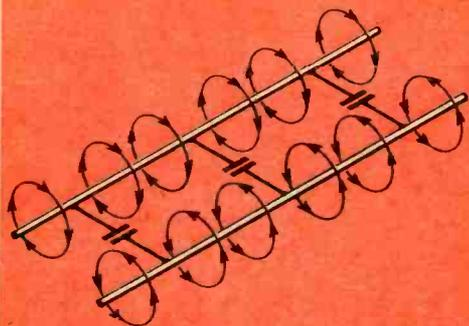
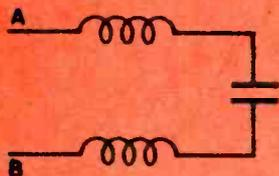

Fig. 1—Parallel wires act as capacitor. Wires have inductance, too, so current creates magnetic lines of force (arrows).
Fig. 2—inductance and capacitance combined in a very small section of two-wire line.
Characteristic Impedance. To find out what the term means, let's take an extremely short piece of twinlead like that attached to your TV set and examine its electrical properties. First, think of the two little pieces of stranded wire as the two plates of a capacitor, between which there is a measurable capacitance. In Fig. 1 this capacitance is represented by the capacitor symbols. Each wire has inductance, too, and this is represented by the circles of arrows. When radio-frequency (RF) power is fed into this minute section of line (Fig. 2) each wire appears as a series impedance to the RF. Knowing the voltage and current of the RF, we can compute the impedance the signal sees when looking into A and B.
Fig. 3—Infinite number of sections in Fig. 2 are connected in parallel here. Voltage applied at A and B causes current flow through network. Characteristic impedance equals E/I .